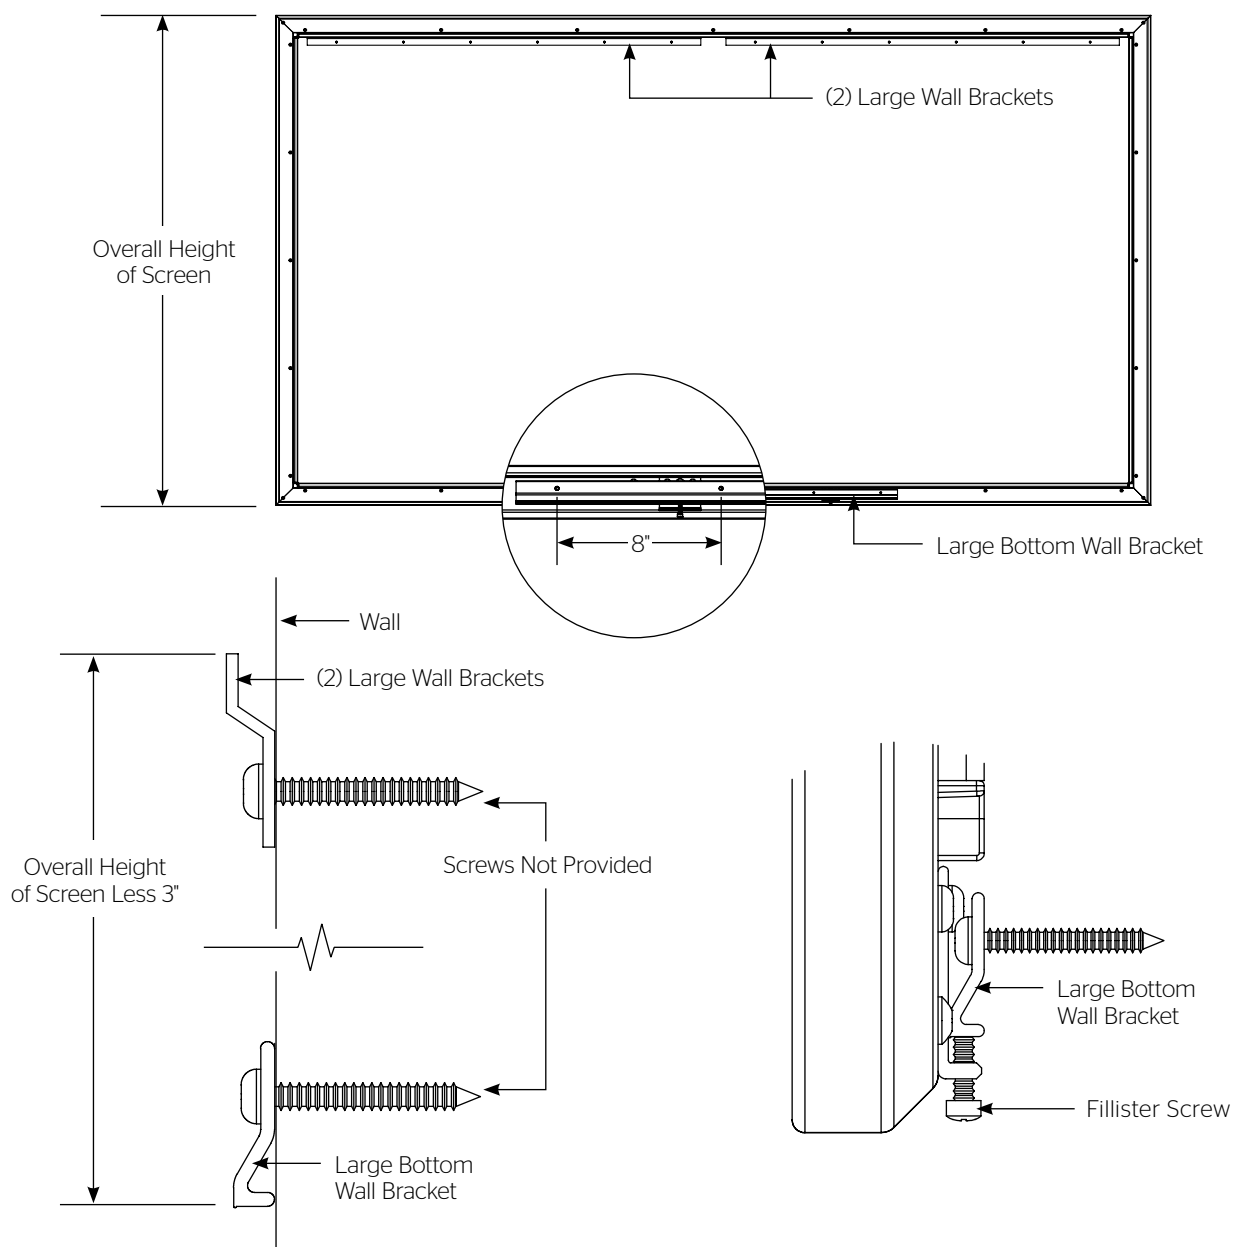

Figure 9 – Screens 104" and Over in Viewing Width
1. Secure the (2) large top wall bracket to wall studs at the desired height. Make sure the brackets are level. The top of the screen will be 2-1/4" above the top of the edge of this wall bracket when mounted. You will need at least a 3" clearance above the brackets to hang the screen (Figure 9).
2. To install the large bottom wall bracket, you must measure the overall height of the screen and subtract 3". Draw a line on your wall between the top edges of the two top wall brackets. Mark the center point between the top wall brackets on this line. Using your screen height minus 3", measure down from this center point and mark the wall. This will be the center point of the bottom edge of the bottom wall bracket. Level the bottom wall bracket and mark the wall for the six screw holes in this bracket (Figure 9).
5. To secure your screen against wall, locate the fillister screws in the bottom frame brackets. Tighten the screws until they touch the bottom wall bracket, then rotate two more turns (Figure 9).